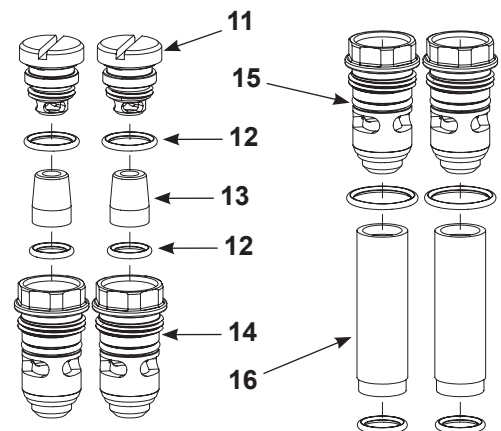

Figure 25 Assemble Fittings to Fluidizing Tubes
4. See Figure 25. Assemble the check valves (13) O-rings (12) access plugs (14), and fitting caps (11) together before replacing the fluidizing tubes (16). Then, once that is complete, assemble the complete access plugs (15) and additional O-rings onto the fluidizing tubes (16).